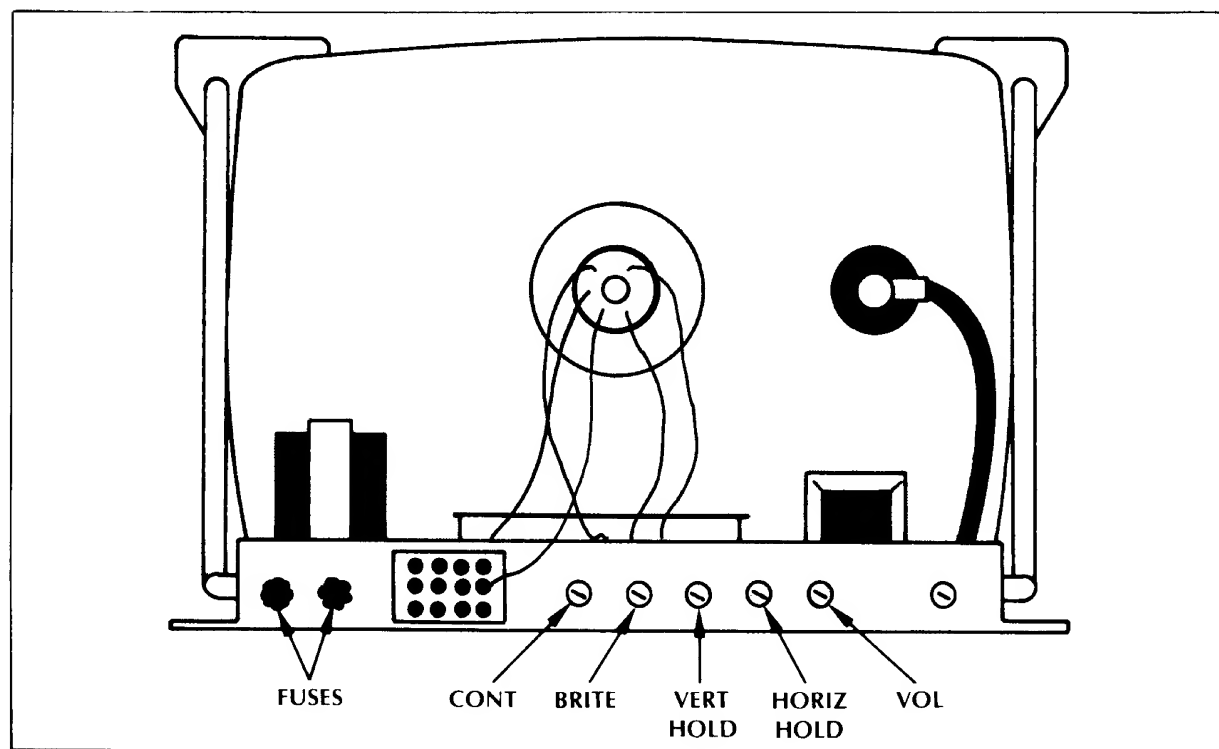

Figure 23 Locations of Adjustments on TV Chassis
The monitor's adjustments function like those of a conventional commercial television set, except that the volume adjustment has no effect. Instead the game produces its sound in a speaker separate from the TV monitor. Figure 23 shows the location of the adjustments on the rear of the chassis. When making the adjustments follow these general guidelines:
- 2) On the back side of the TV chassis, near the bottom left corner, find the two fuse holders. Refer to Figure 23 for a view of the TV chassis showing their exact locations.